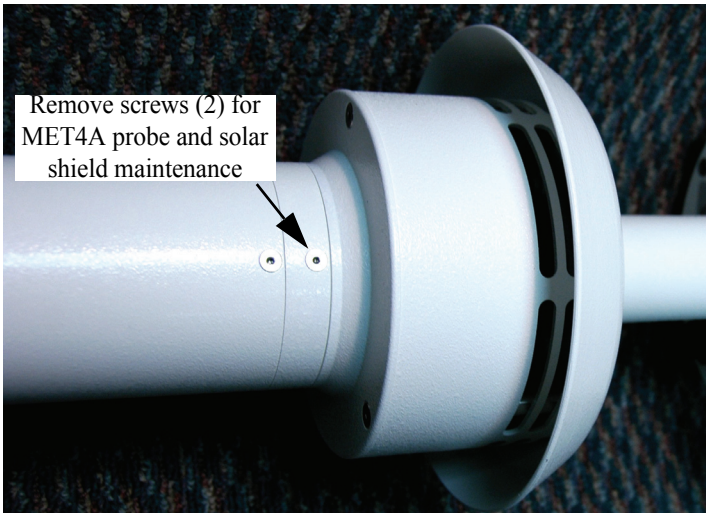

FIGURE 14-2: Gaining Access to MET4A Probe & Solar Shield for Maintenance
2. Refer to Figure 14-2. "Gaining Access to MET4A Probe & Solar Shield for Maintenance". Remove the two uppermost screws on the side of the aspirated solar shield.
2. Refer to Figure 14-2. Gaining access to MET4A probe and solar shield for maintenance. Remove the two uppermost screws on the side of the aspirated solar shield.
It is imperative that you vertically align the Model 765 and MET4/MET4A barometers to minimize the effects of head pressure during the field assessment. Refer to Figure 14-2 on page 113 for alignment details.